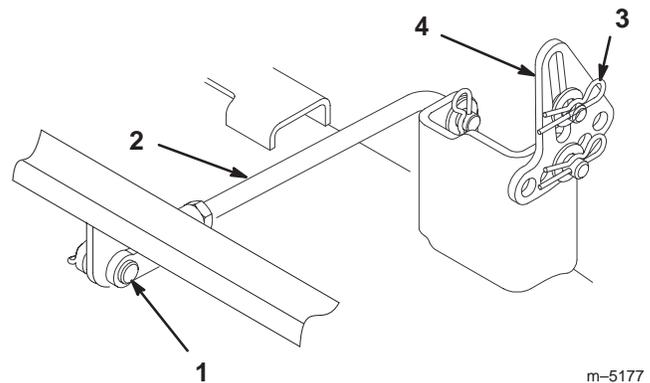

Figure 46
- Remove the hairpin cotter and clevis pin from the rear trunion rod (Fig. 46) on each side of the mower.
- Remove the hairpin cotter and washer at the mower leveling brackets (Fig. 46) on each side of the mower. Note which hole the leveling bracket is mounted in for future installation. Slide the brackets off of the mounting pin.
4. Attach the rear trunion rod to the tractor with the clevis pin and hairpin cotter (Fig. 46) on each side of the mower.
5. Slide the leveling brackets onto the mounting pins and secure them with the washers and hairpin cotters (Fig. 46).